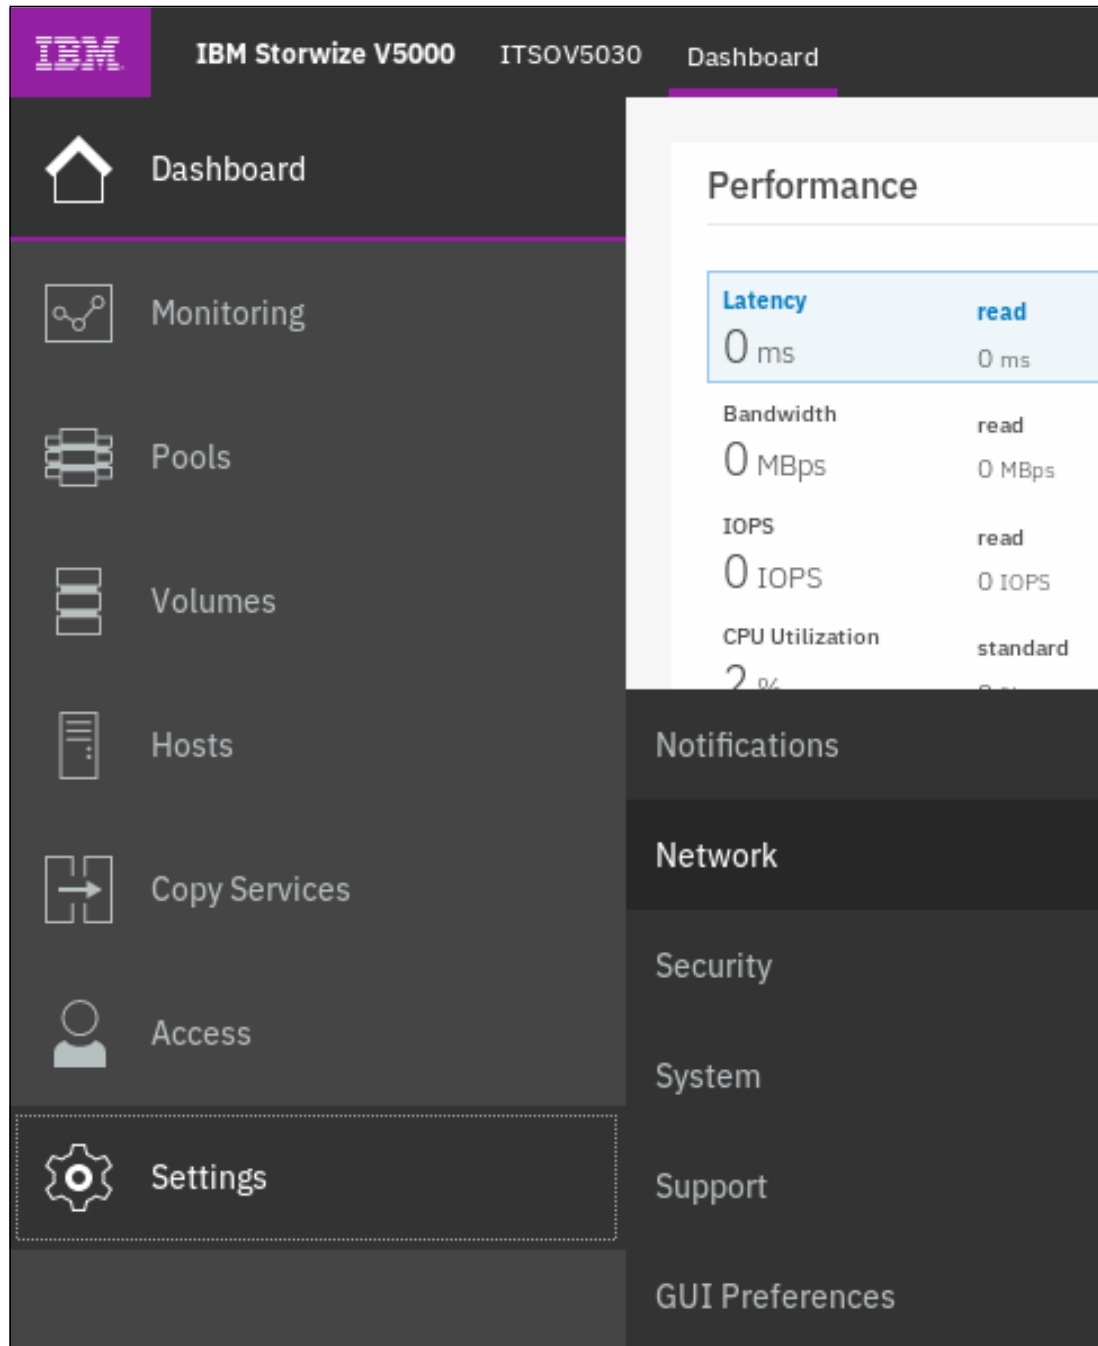

Figure 5-58 Configuration: Network
1. Switch to the configuration Overview window and select **Network** (see Figure 5-58).